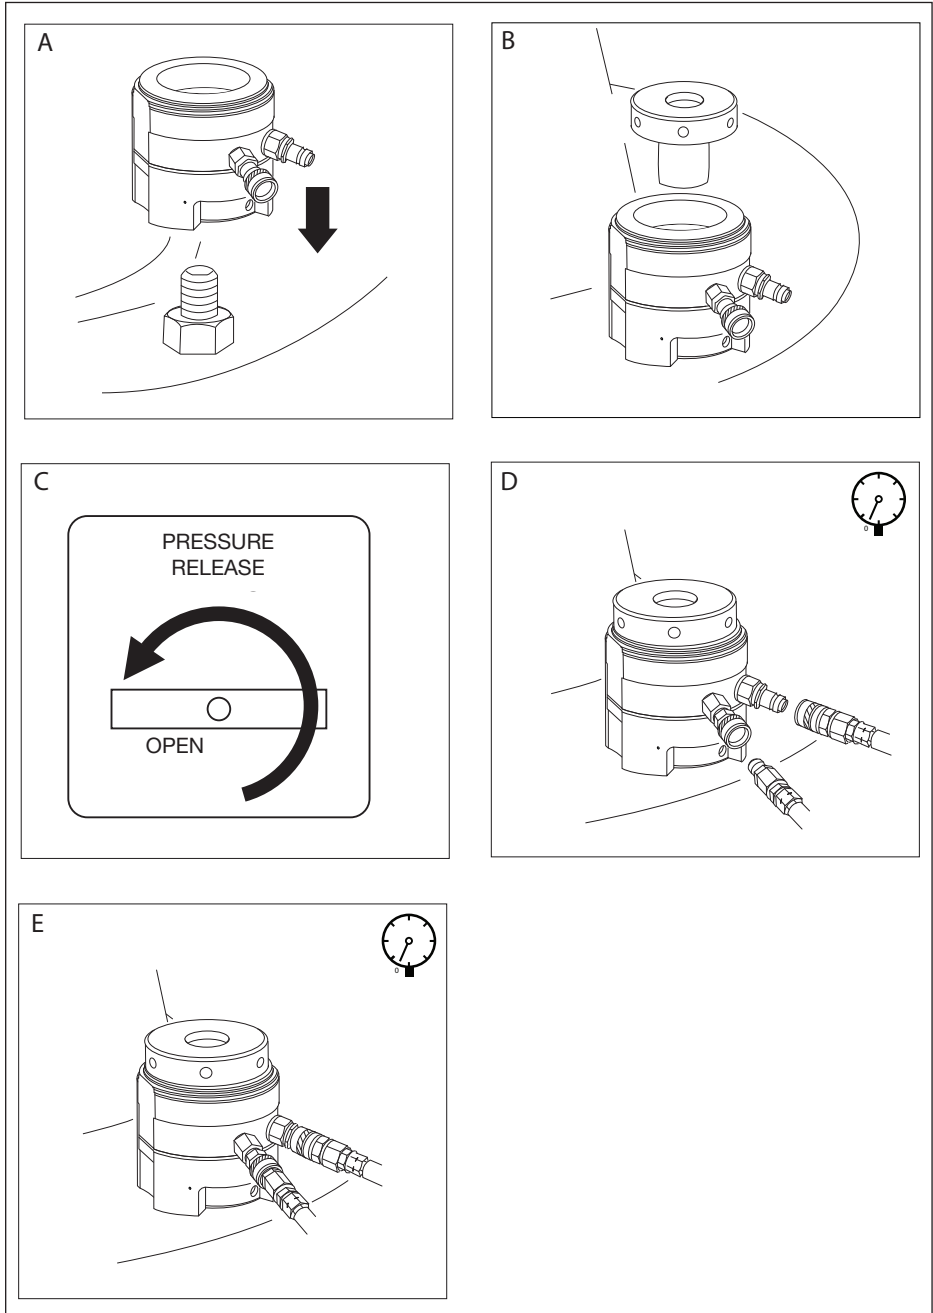

FIGURE 6, HYDRAULIC TENSIONER INSTALLATION
4. Place the tensioner over the stud, ensuring that the socket fits over the nut without force. See Figure 6, View A.
5. Locate the end of the stud with the threaded puller. Using a tommy bar, screw down the threaded puller on the stud until the puller shoulder seats firmly against the piston. See Figure 6, View B.
7. Check that the pump pressure release valve is OPEN. See Figure 6, View C.
8. Connect hydraulic hoses to the tensioners. See Figure 6, views D and E. Also refer to Section 6.3 for typical hose connection arrangements.